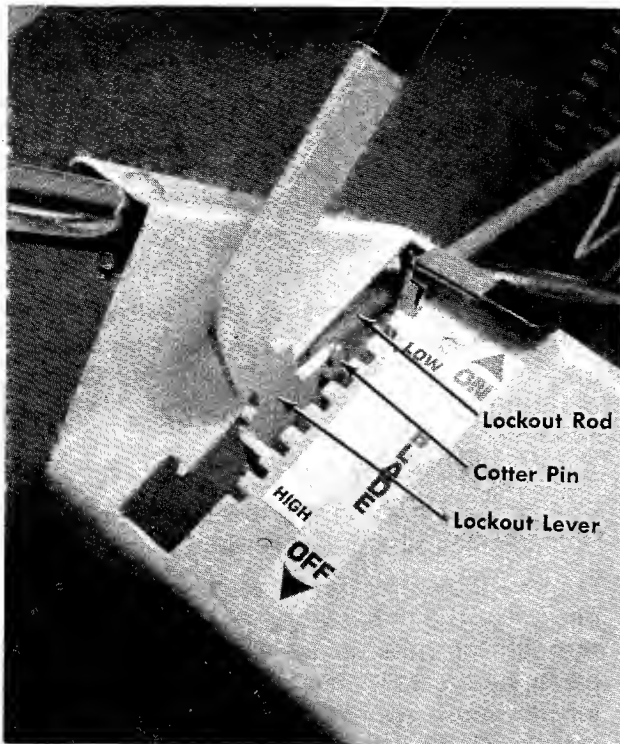

FIGURE 6
12. Place the hooked end of the lockout rod into the hole in the lockout lever and secure it with a cotter pin. See figure 6.
Put the lockout lever in the OFF position. If the lockout lever cannot be pulled back into the OFF position, remove the cotter pin and unscrew the lockout rod. Reassemble and test. See figures 6 and 12.